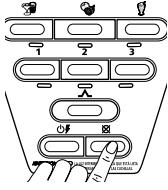

Fig. 23
2. Press the stop \otimes button to cancel the operation at any time (Fig. 23).